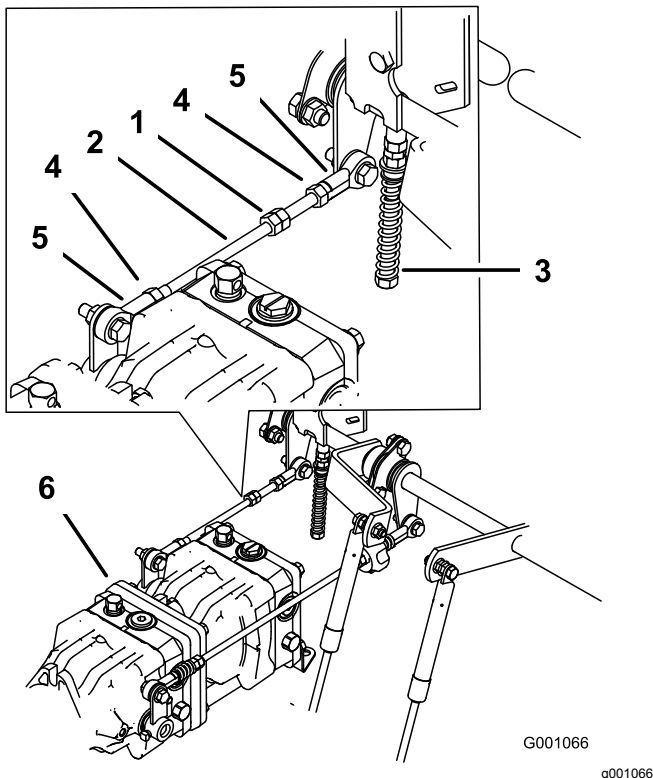

Figure 91
1. Loosen the locknuts at the ball joints on the pump control rod (Figure 91).
3. Adjust the pump rod length by rotating double nuts on rod, in the appropriate direction, until wheel is still or slightly creeps in reverse (Figure 91).
6. Tighten the locknuts at the ball joints (Figure 91).